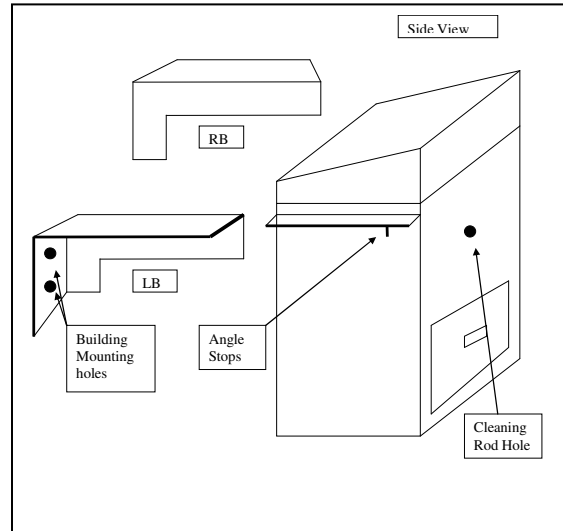

Figure 2
Simply remove the top of the ASH ARRESTOR™ and assemble your venting brush on to the rod that has been put through the hole in the front of the ASH ARRESTOR™. (Figure 2) Clean as usual allowing the ash to be pulled into the ASH ARRESTOR™ catch drawer and not all over the ground and yourself.
- Step One: Clamp or tape mounting brackets (2) on to ASH ARRESTOR™ unit ensuring left bracket is on left side and right bracket is on right side. (Figure 2)